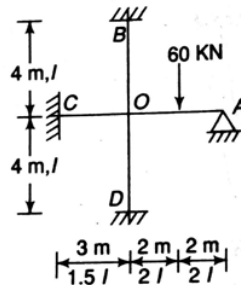

Figure 10
8. Analyse the frame shown in Figure 10 using stiffness method. [14 M]